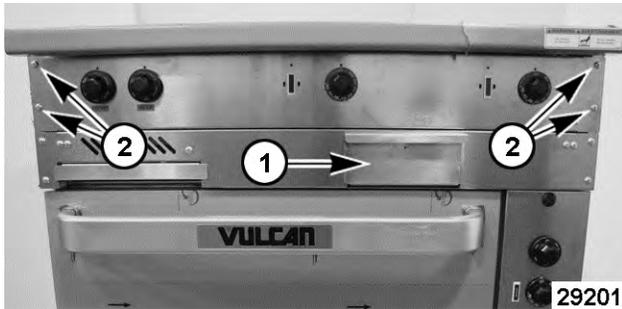

Fig. 1
1. Pull out grease tray (1, Fig. 1) on models with griddle.
2. Remove 4 screws (2, Fig. 1) from control panel.